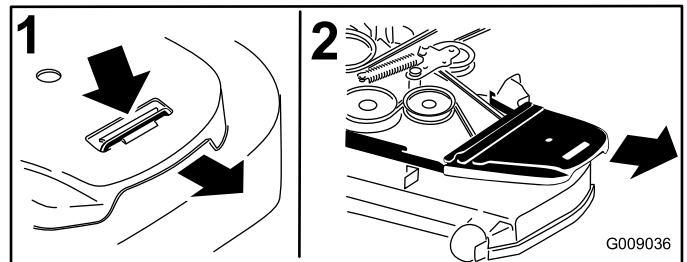

Figure 73
- Remove the belt covers (Figure 73).